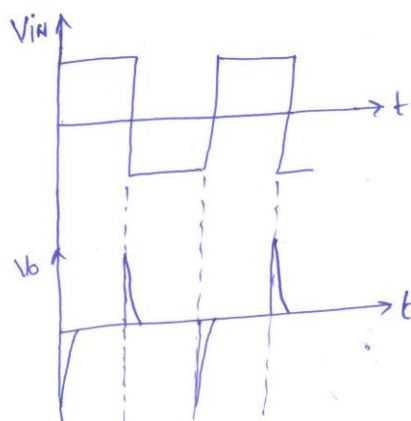

Fig.3.22
3.6.4.15 If input of differentiator is square wave then output is spike wave as shown in Fig.3.22